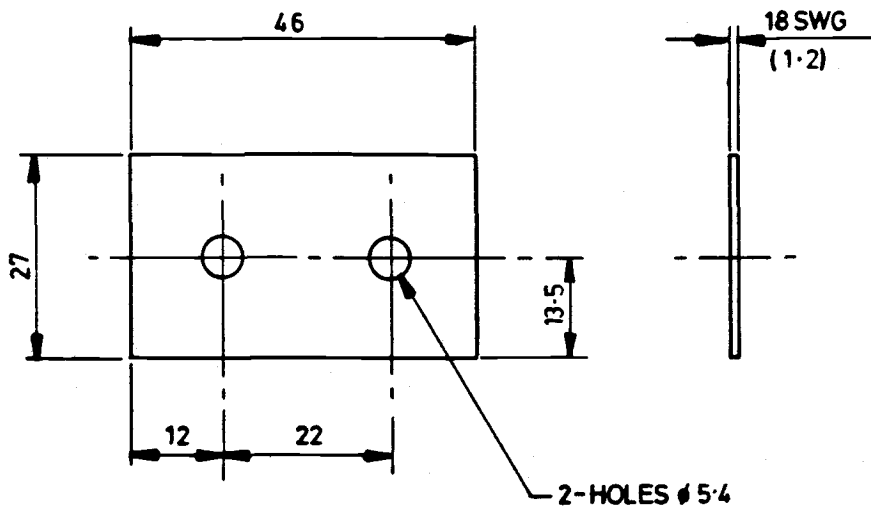

Fig 2 Backing plate
9.2.2 Manufacture backing plates (item 3) as shown in Fig 2.